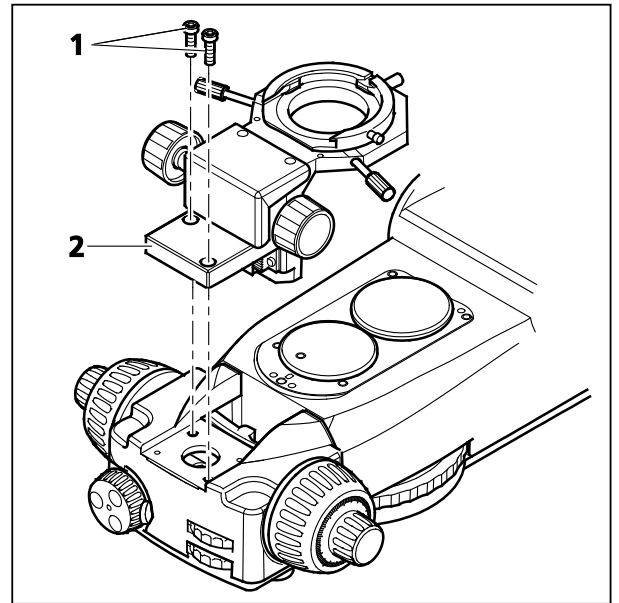

Figure 3-12 Attaching & removing the condenser carrier
(1) Attaching the condenser carrier
- Unscrew the two hexagon socket screws (Figure 3-12/1) in the cover plate at the stand, and take off the cover plate.
- Put the condenser carrier (Figure 3-12/2) on the stand, and fasten it using the two socket screws (Figure 3-12/1).
(2) Removing the condenser carrier
- Hold the condenser carrier (Figure 3-12/2) with one hand, and unscrew the two hexagon socket screws (Figure 3-12/1).